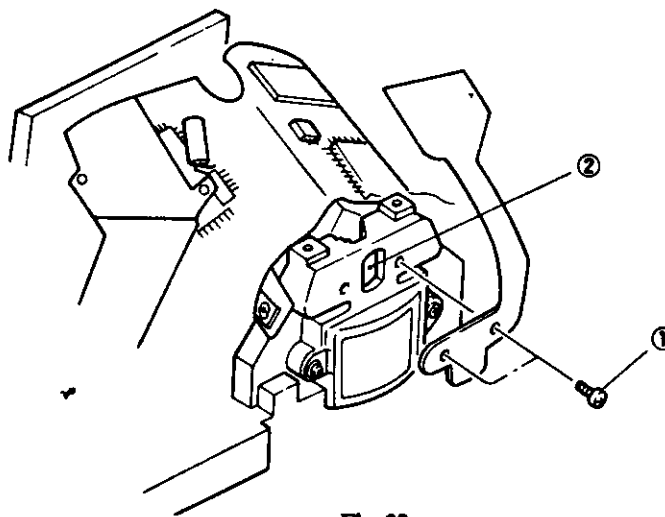

Fig. 32
- 11) Insert the **SPD** in the **SPD WINDOW (No. 2)** shown in Fig. 32 and tighten two **SCREWS (No. 1)**.